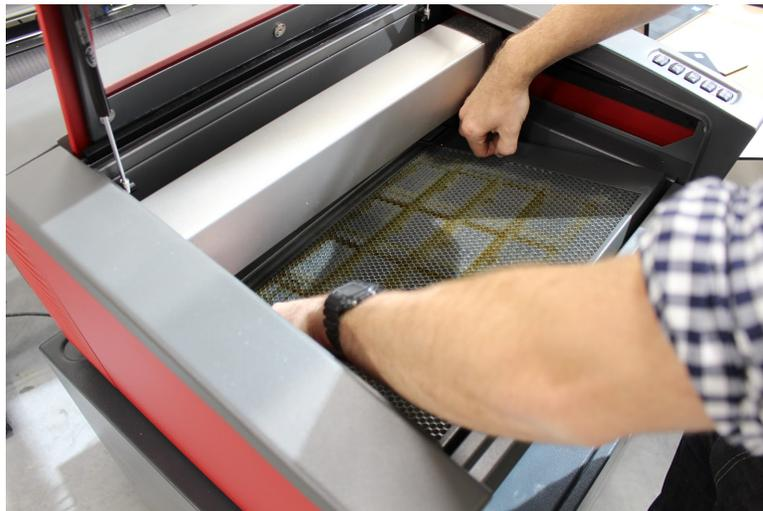

Figure 14 - Removing the Cutting Table
2. Lift the Cutting/Vector table up and out (Figure 14).